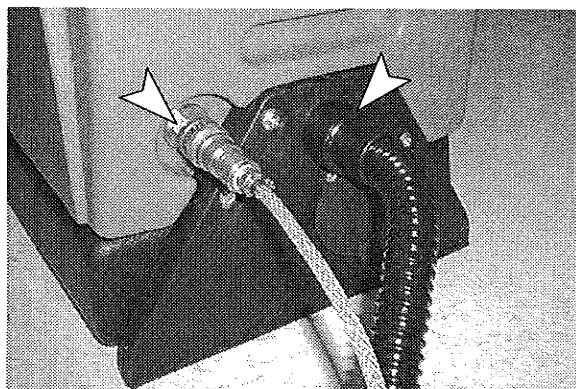

FIG. 8
1. Connect accessory tool hoses to solution hose coupler and vacuum hose port located at front of machine (Figure 8).